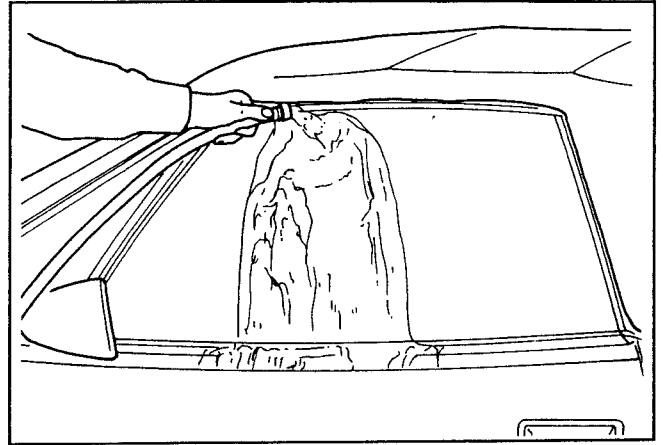

Figure 35. Test for Waterleaks
3. Test the horizontal weatherstrips for waterleaks. Perform adjustment #8 (Fig. 35).